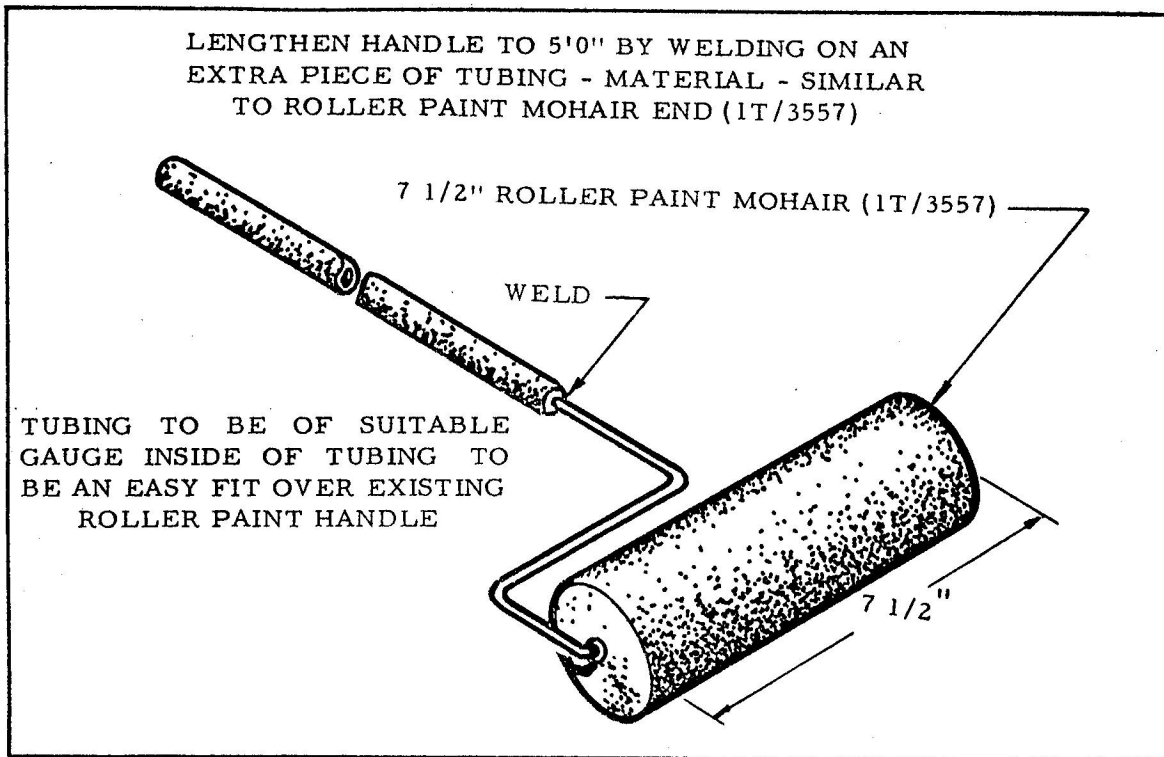

Figure 1
- (a) One 7-1/2" roller paint mohair (1T/3557) to be purchased locally and reworked in accordance with Figure 1. A paint brush may be used in lieu of a roller.